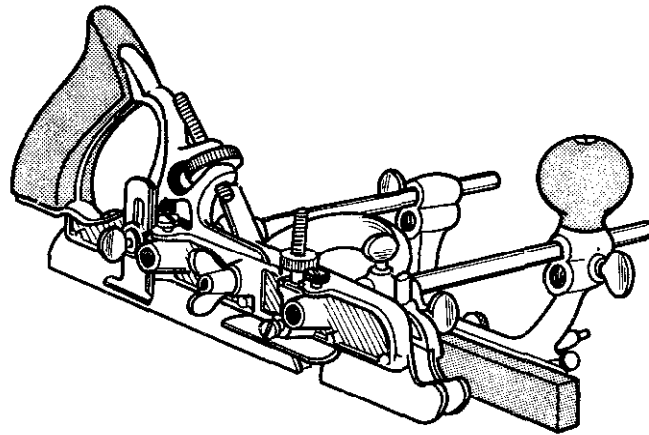
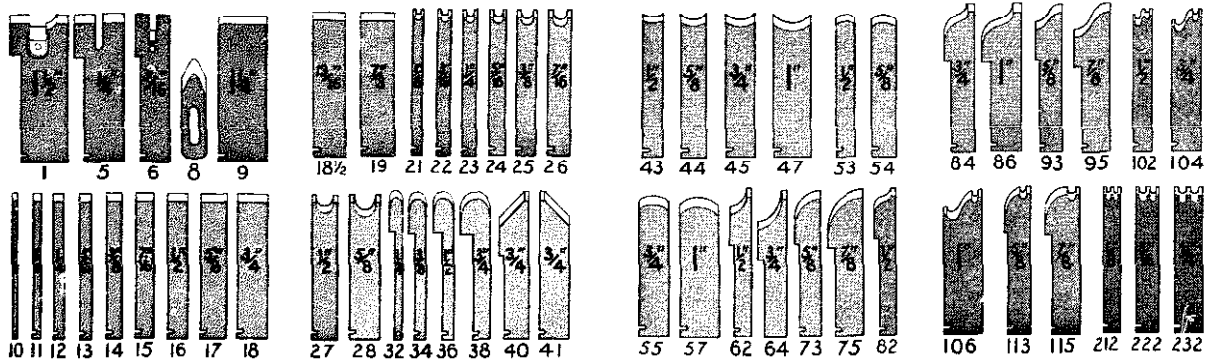

Fig. 8-70 Universal plane.
Fig. 8-71 Various blades available for the universal plane.
- The *universal (combination) plane*, figure 8-70, is used to make fancy moldings or trim. The illustration of the blades, figure 8-71, shows the variety of shapes this plane can produce.